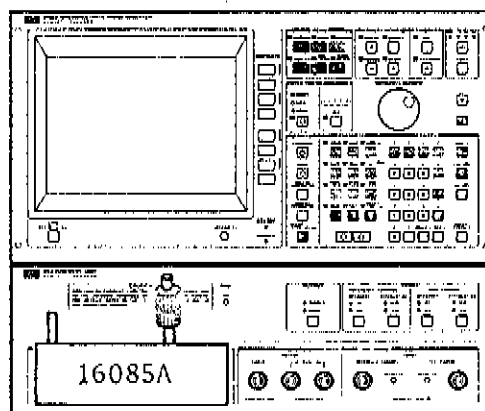

Figure 4-32. Impedance Measurement Accuracy Test Setup 3
14. Replace the air-line with the 50 Ω termination as shown in Figure 4-32.